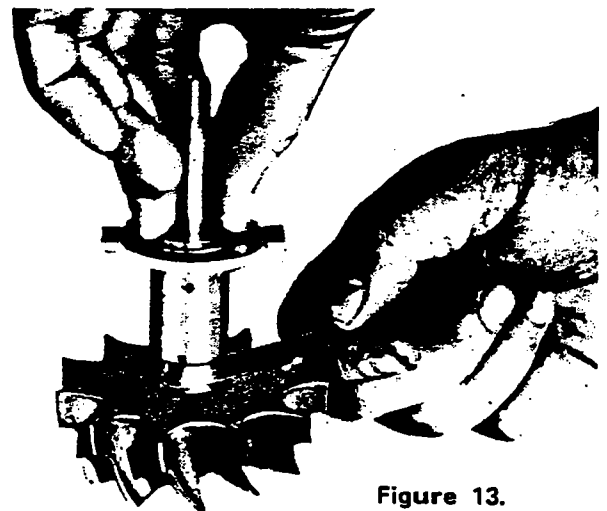

Figure 13.
2. Hold down on the shaft sleeve so that the mating ring is tight against the shaft shoulder as shown in Fig. 13. Use a feeler gauge as shown to check the clearance between the bottom of the bearing and the shoulder. Clearance must be .004 to .006 inch. Replace the bearing if clearance exceeds this limit.